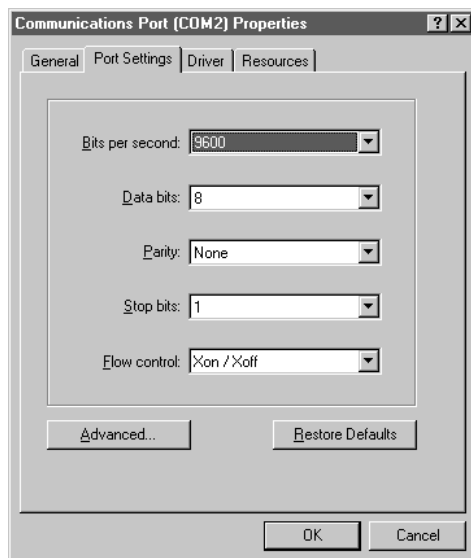

Figure 9-6: COM Port Properties Dialog Box
12. This should bring up the dialog shown in Figure 9-6.